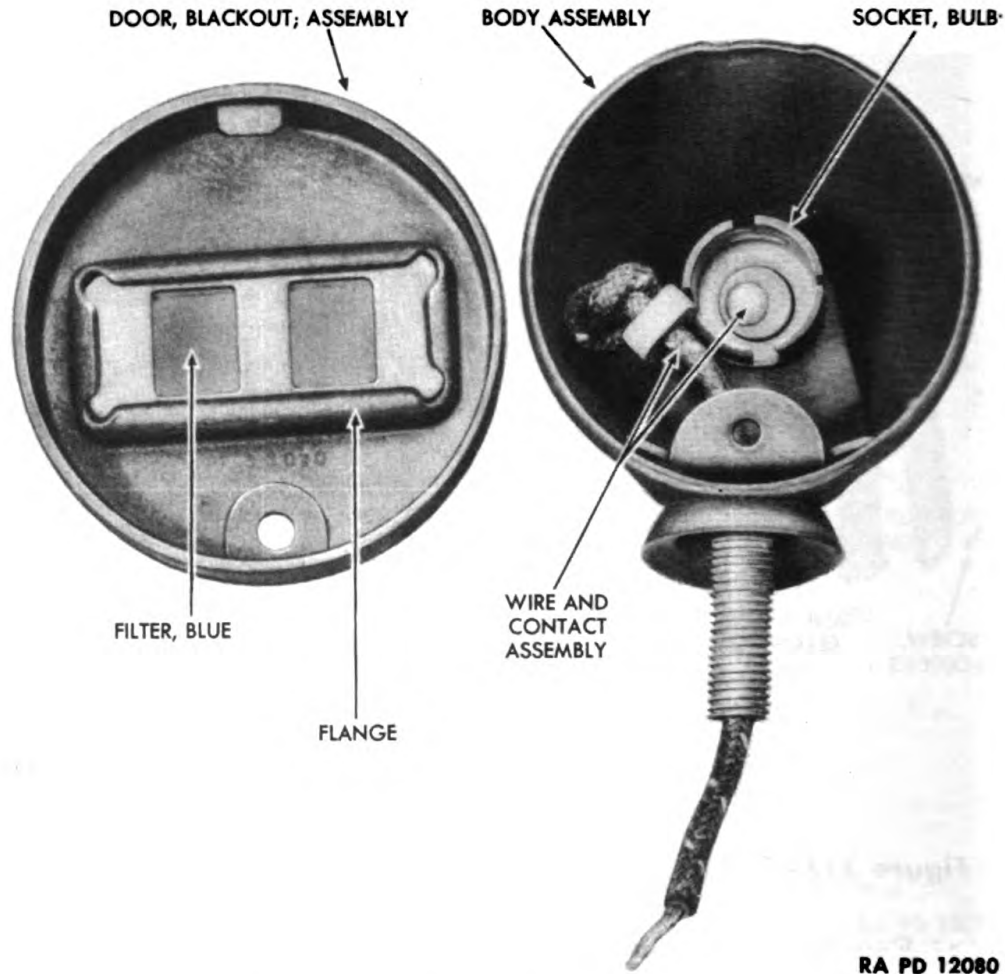

Figure 218—Blackout Marker Lamp
- (c) Remove door screw and lift blackout door assembly, and door gasket off body assembly; then remove bulb from bulb socket. **NOTE:** The door assembly contains blue filter and clear lens that can be removed by prying up flange (fig. 218). The body assembly contains the bulb socket, wire and contact assembly. Replace body assembly in case repairs are necessary to internal parts (fig. 218).